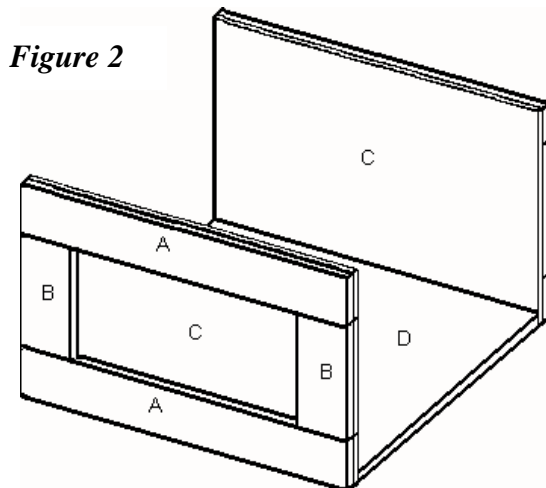

**Figure 1**
1. Cut four vertical trims (A) from 1 x 4 pine, each measuring 23 inches long.
2. Cut four horizontal trims (B) from 1 x 4 pine, each measuring 8 inches long.
3. Cut two sides (C) from 1/4-inch beaded plywood, each measuring 15 x 23 inches.
4. Place two vertical trims (A), better face down, on a level surface, parallel to each other and 8 inches apart. Fit two horizontal trims (B), better face down, between the ends of the vertical trims (A), as shown in *Figure 1*.
5. Apply glue to the faces of the trims (A and B). Place one side (C) (beaded side down) over the horizontal and vertical trims (A and B), matching all four edges. Nail through the side (C) 1 inch from each of the edges, using 3/4-inch brads spaced about 4 inches apart.